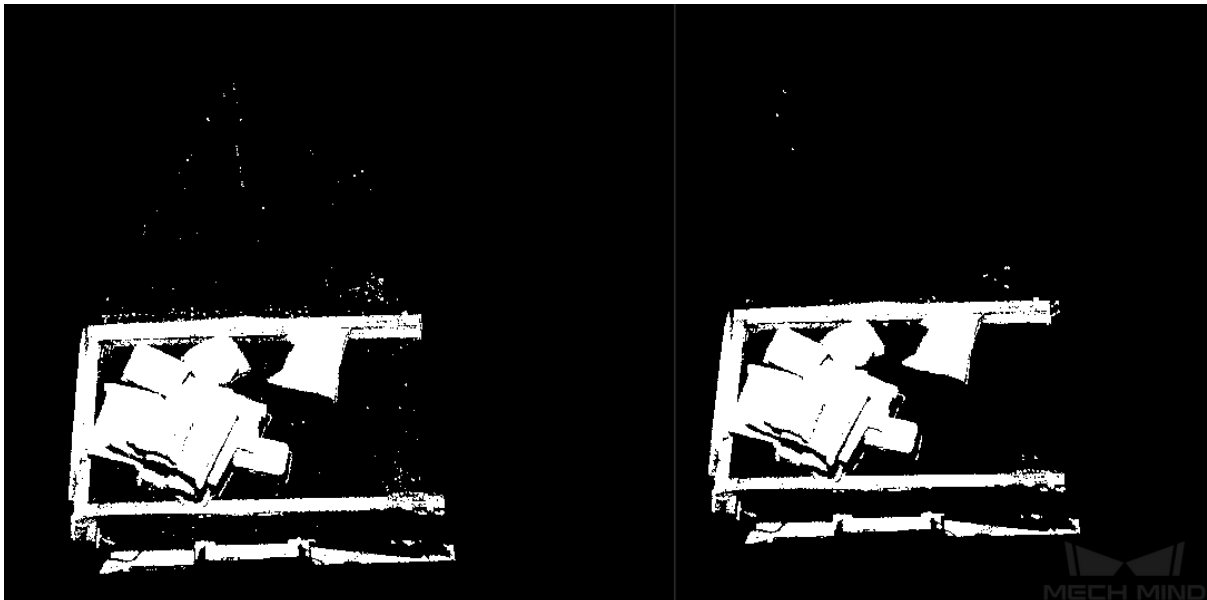

Figure1 StatisticalOutlierFilter Results Comparison
- *StatisticalOutlierFilter* : Points out of range are excluded according to a given parameter. This method is recommended when the point cloud has obvious outliers. As shown in *figure 1*. This method parameters are introduced first.